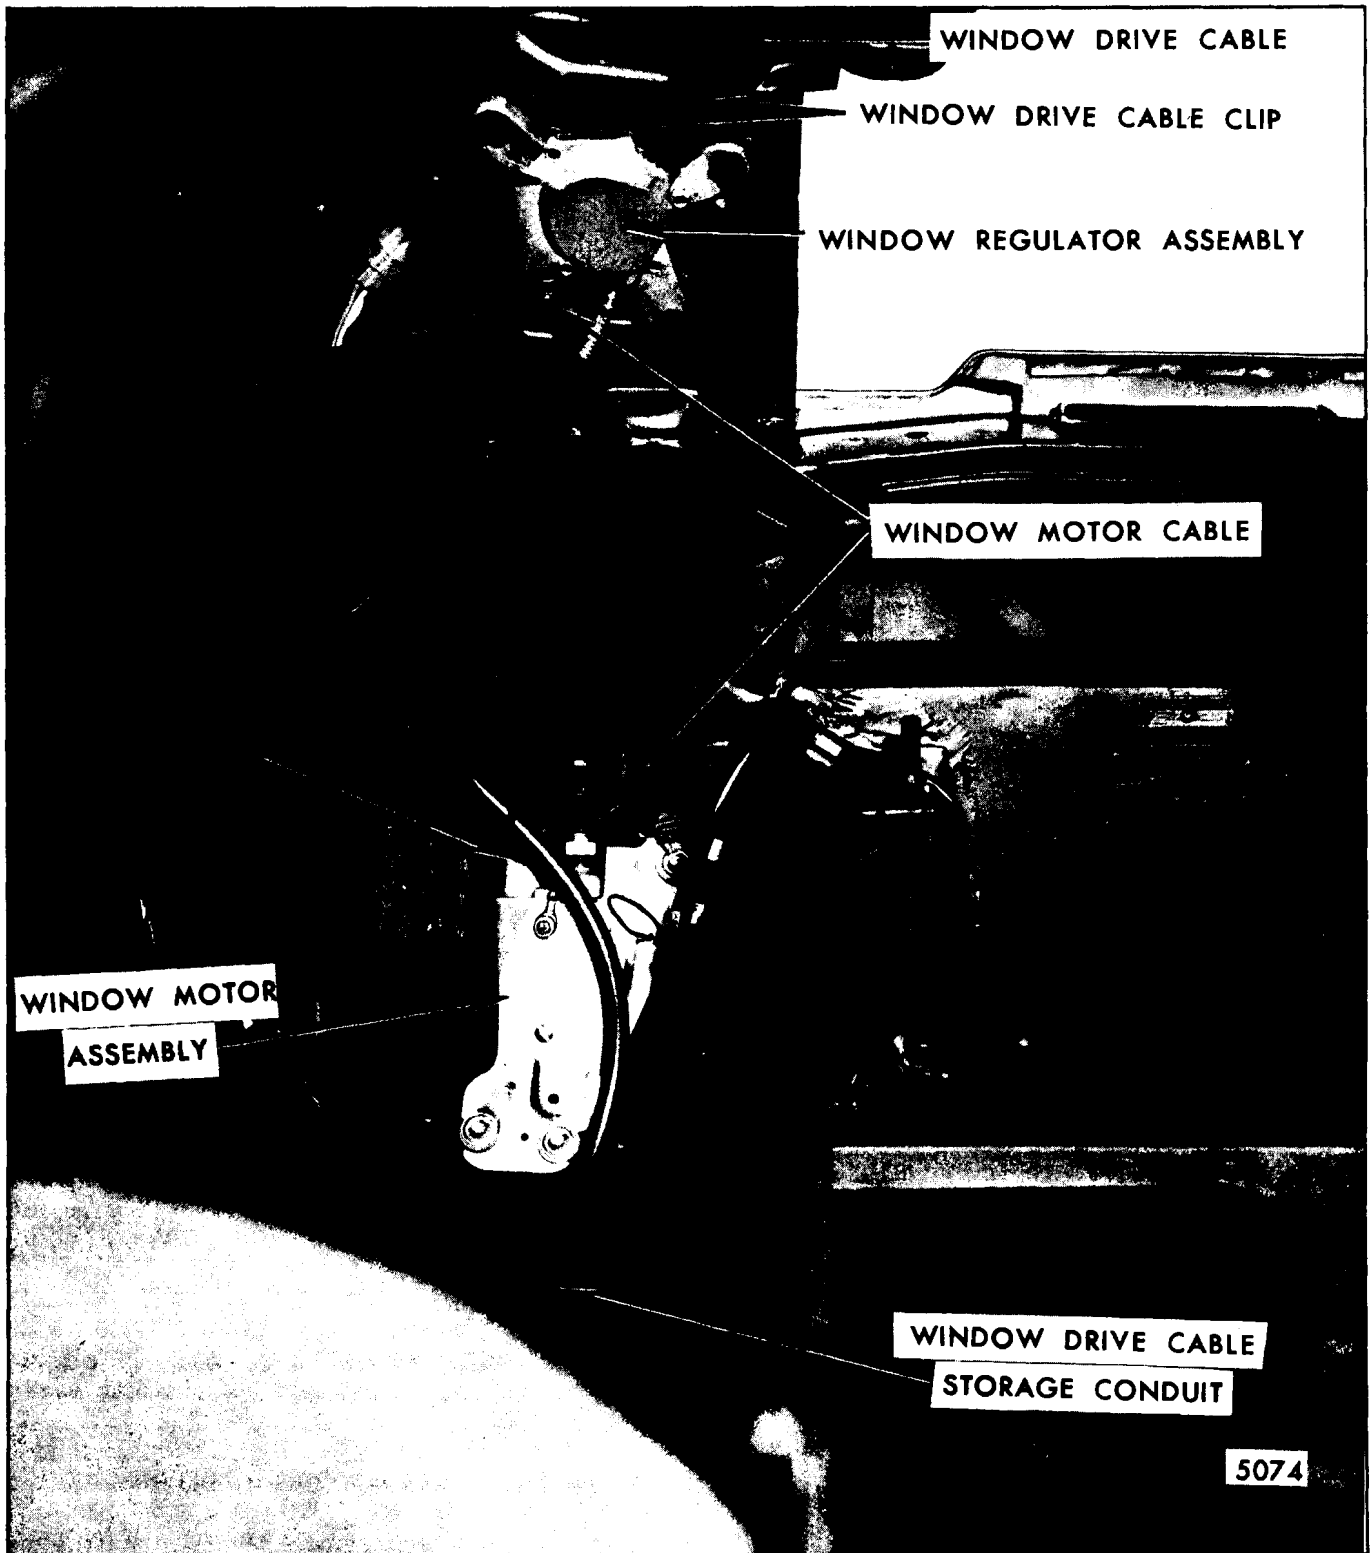

Fig. 9-12-Tail Gate Window Motor and Regulator Installation
2. Disengage motor drive cable at window regulator assembly (Fig. 9-12).
2. Disconnect motor electrical lead and disengage drive cable at upper end of motor (Fig. 9-12).
3. Detach motor drive cable at bottom of window gear box and remove gear box attaching screws (Fig. 9-12).